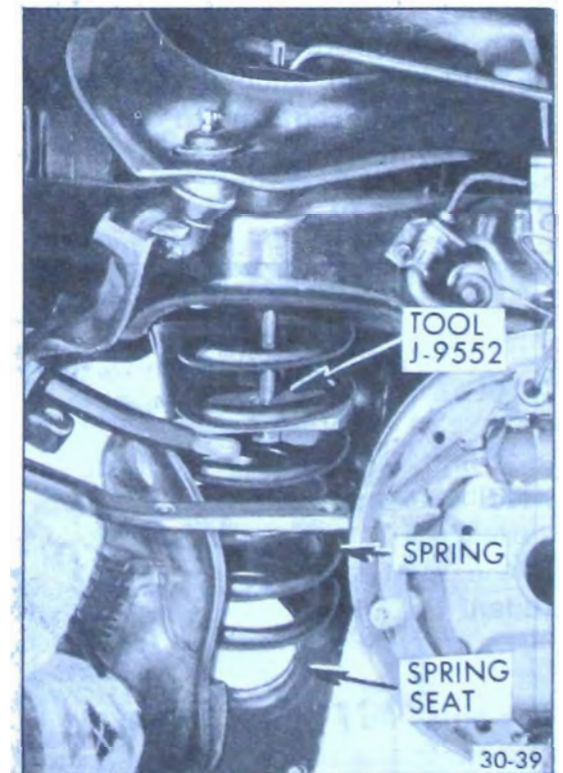

Figure 30-41—Pushing Spring Onto Lower Control Arm Seat
6. Force the spring on its seat in the lower control arm as shown in Figure 30-41. Remove tool.